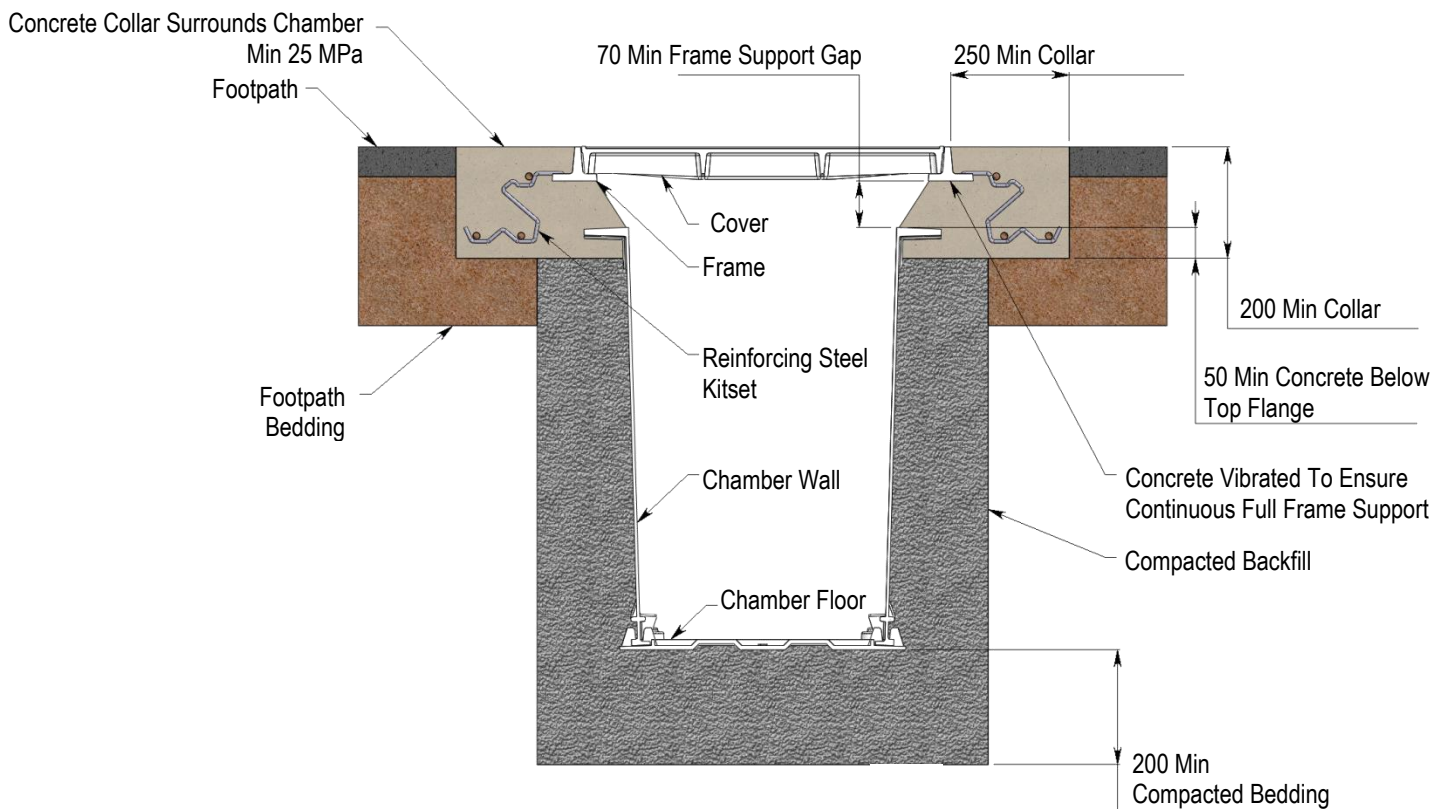

Fig 2
- Backfill chambers with mechanically compacted layers of evacuated material if the material is of a suitable type. The compaction shall be of a standard equivalent or more than that of the surrounding ground. If the evacuated ground is unsuitable imported hard fill shall be utilised. Ref Fig 2